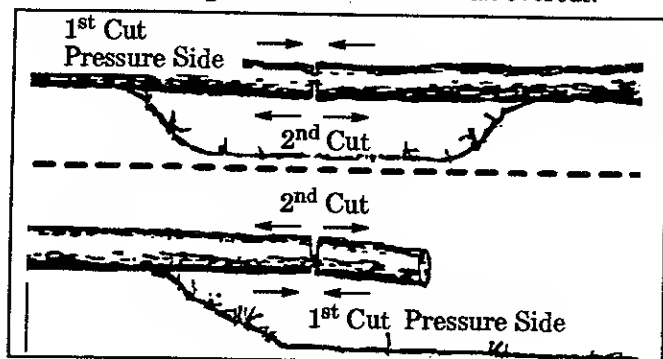

Figure 18
- Give special attention to logs under strain to prevent the saw from pinching. Make the first cut on the pressure side to relieve the stress on the log. Figure 18.